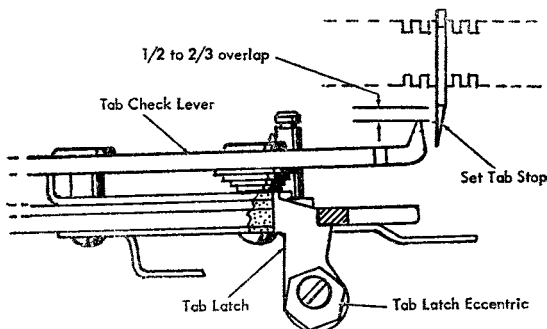

Figure 23. Tab Latch Adjustment
**5. TAB LATCH.** Adjust by positioning the eccentric mounting-stud so that the tab-check lever engages  $\frac{1}{2}$  to  $\frac{2}{3}$  of the exposed surface of a set tab stop when the tab lever is latched. The high side of the eccentric must be kept in the left half of its orbit (Figure 23).